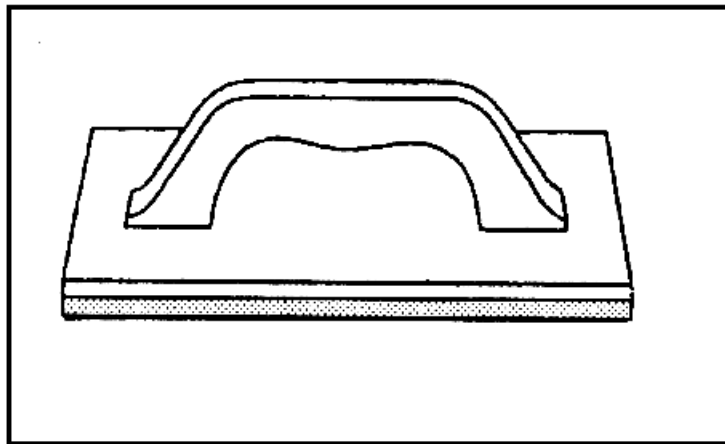

Figure 051-236-1192-4
- a. Use a rubber-surfaced trowel to spread the joint compound over the tile surface (Figure 051-236-1192-4).